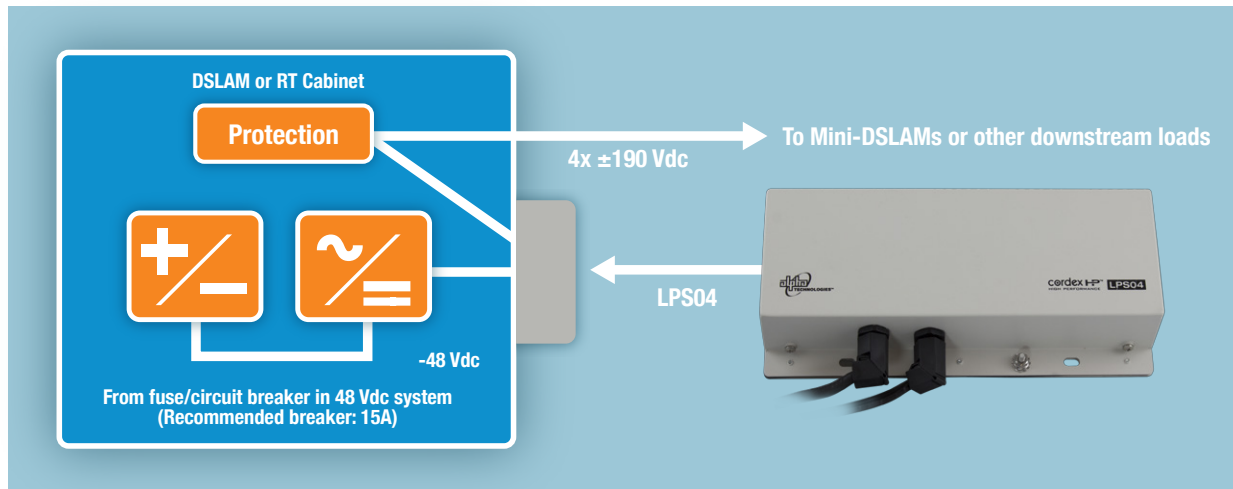

Figure 6: Block Diagram of Typical Sealed Up-converter Application
While the LPS36 Compact and the rack-mount shelves are modular and equipped with connectorized cables for connection to the Outside Plant, the **LPS04 Sealed Up-converter Module** is a single Up-converter module enclosed in a sealed housing for connection to four (4) OSP cable pairs. It is often retrofitted to an existing OSP enclosure (such as a digital loop carrier or DSLAM cabinet) for powering one or two downstream DSLAMs at the far edge of the network. The unit may be installed inside the cabinet, attached to the outside of the cabinet, or mounted on a pole or nearby OSP splice facility. As such, this unit is equipped with a 6-foot long, 12-conductor, #24 AWG stub cable for connecting to the OSP cables. A block diagram of a typical LPS04 application is provided in Figure 6.